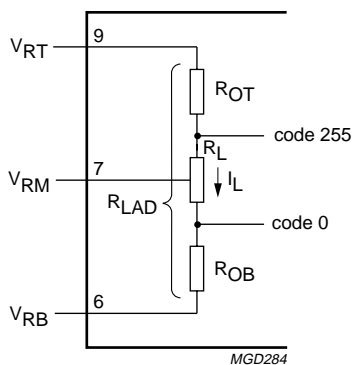

Fig.3 Explanation of note 3.
3. In order to ensure the optimum linearity performance of such converter architecture the lower and upper extremities of the converter reference resistor ladder (corresponding to output codes 0 and 255 respectively) are connected to pins V_{RB} and V_{RT} via offset resistors R_{OB} and R_{OT} as shown in Fig.3.